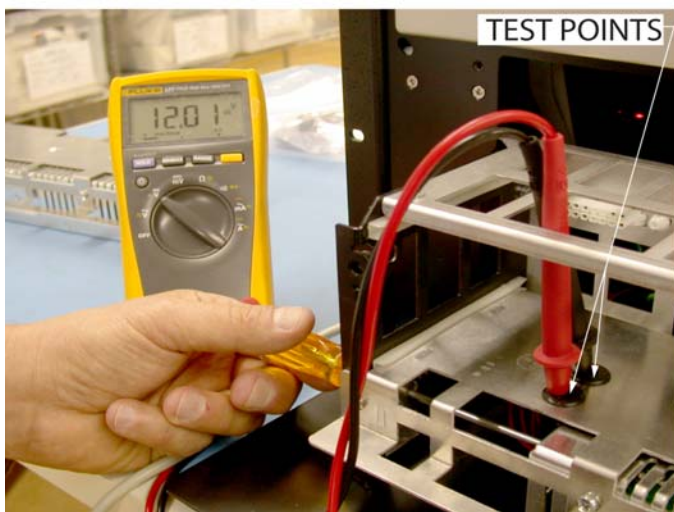
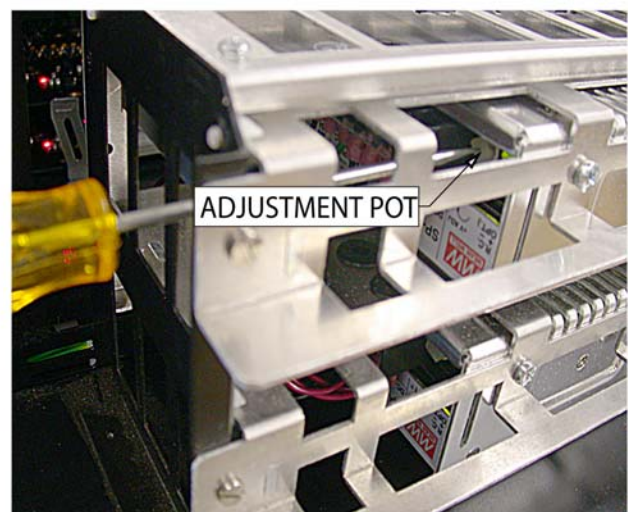

FIGURE 3
FIGURE 4
- 12) Insert a suitable flat blade screwdriver through the voltage adjustment access hole to engage the voltage adjustment potentiometer on the new power supply. See figure 3 and figure 4.